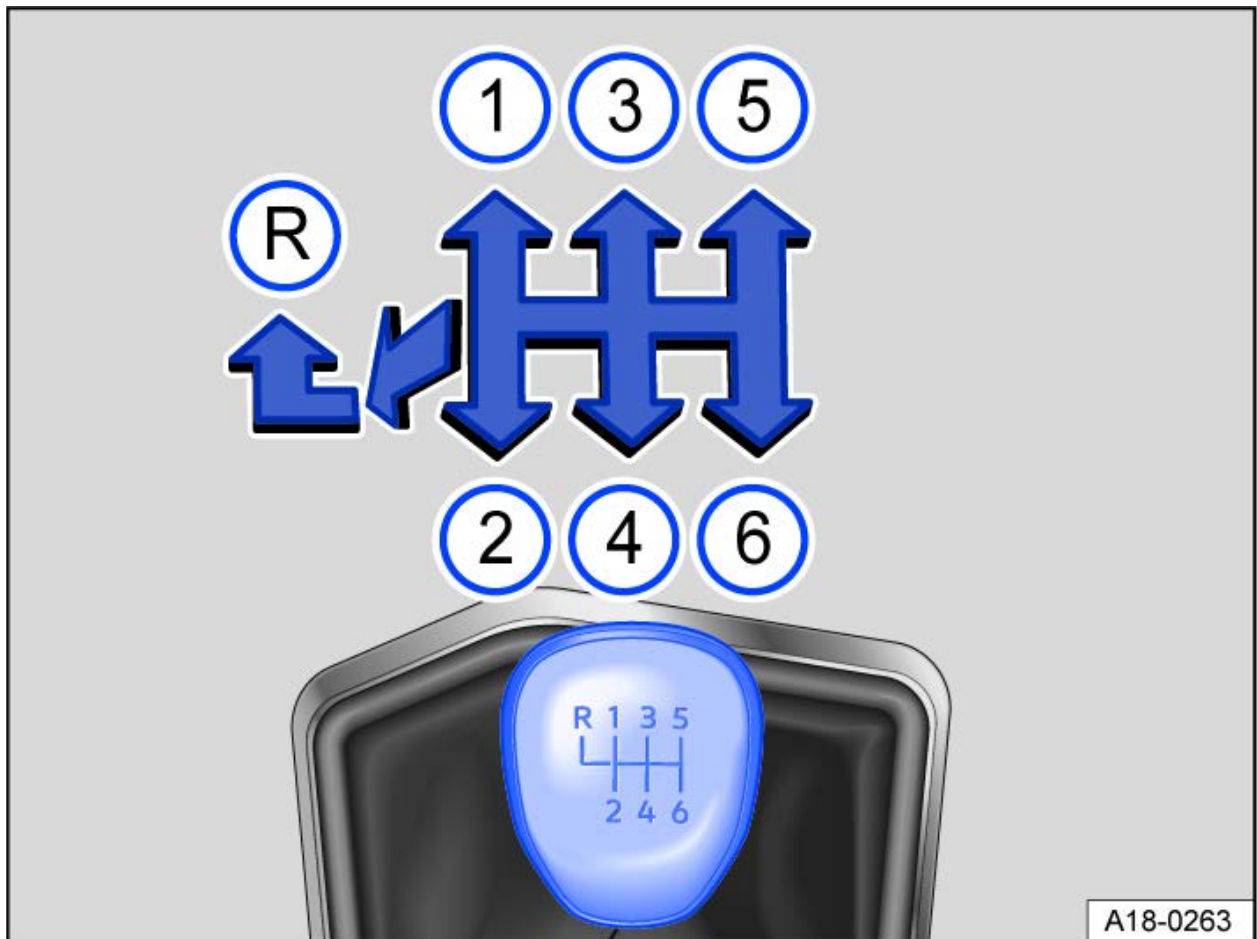

Fig. 1 Gear shift pattern for 6-speed manual transmission.
The positions of the individual gears are shown on the gearshift lever → *fig. 1*.
- Push the gearshift lever all the way to the left and then forward into the reverse gear position → *fig. 1* (R).